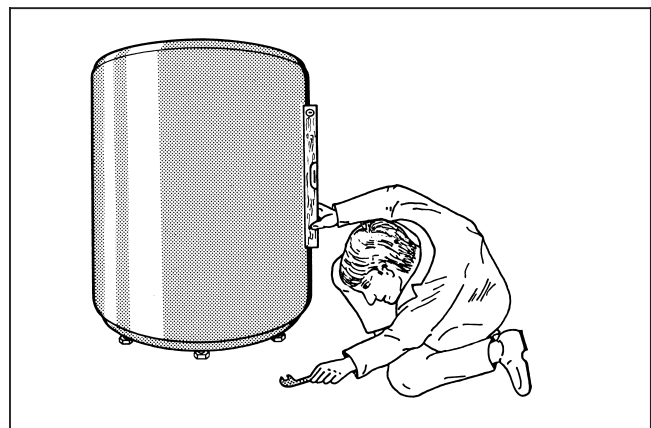

Fig. 5
- Adjust the screw-on feet to align the domestic hot water storage calorifier in a vertical position (Fig. 5).